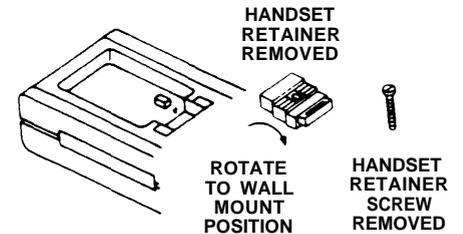

Figure 6
- Rotate the handset retainer 180 degrees end-over-end (see Figure 6).